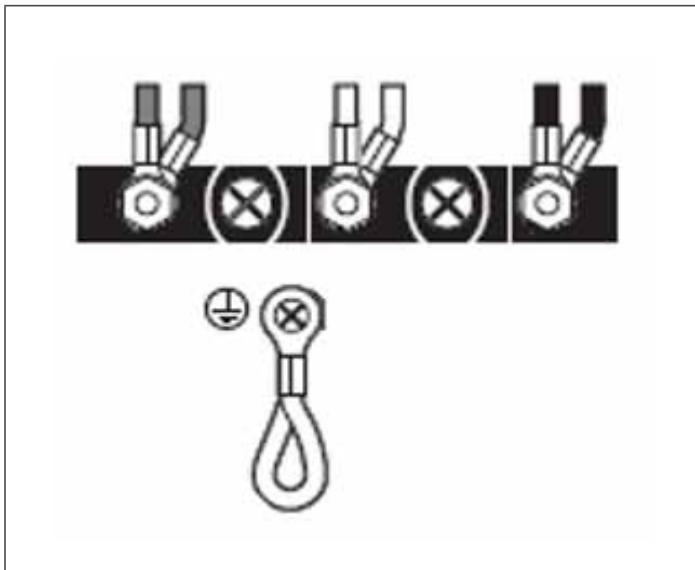
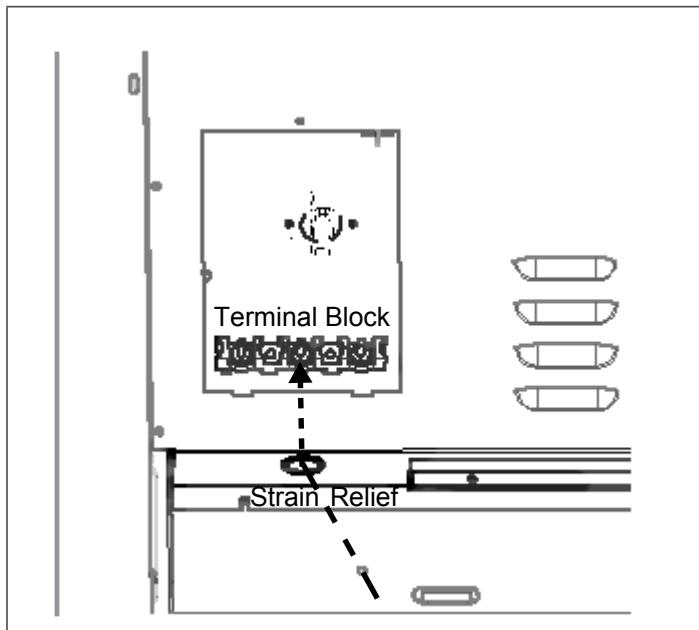

Figure 12: Terminal Block
Figure 13: Strain Relief Location
Mount a strain relief (not provided) into the 1" (25.4mm) diameter hole located below the terminal block (see Figure 13). Wiring for the unit is to be brought into the terminal block through the conduit and through the strain relief. The ends of the wiring must have 1/4" faston closed-loop lugs attached, preferably soldered in place. Make the connections to the terminal block provided (see Figure 12).
2. Mount strain relief (not provided with range) into the 1" (25.4mm) diameter hole in the back panel located below the terminal block (see Figure 13 and Figure 12). Route wires up through strain relief.